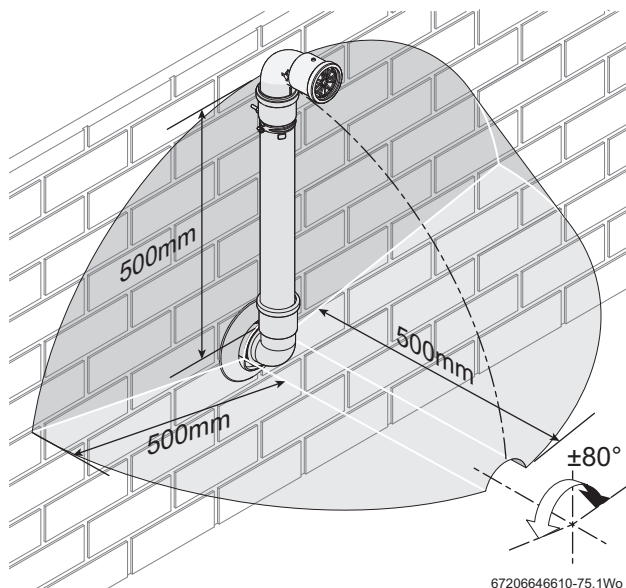

Fig. 18 Terminal exclusion zone
The minimum plume length should be calculated to ensure that the air inlet and exhaust have a minimum distance of 500mm between them (→ figure 18).
- Do not terminate the plume management inside the shaded area shown in figure 18